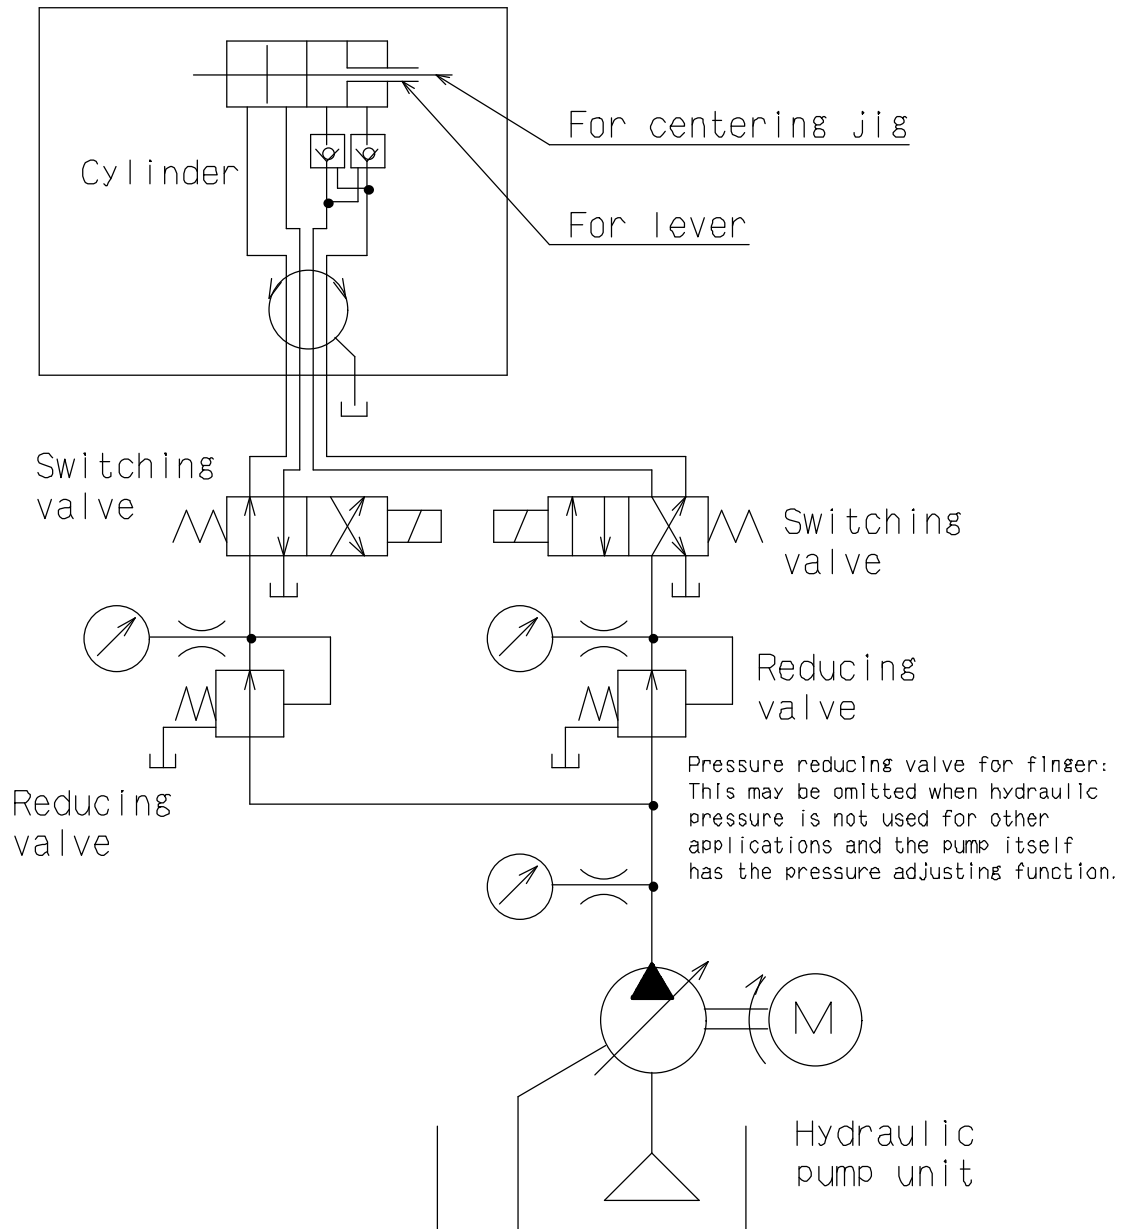

Fig.14
- Fig.14 shows an example of chuck open/close hydraulic circuit.